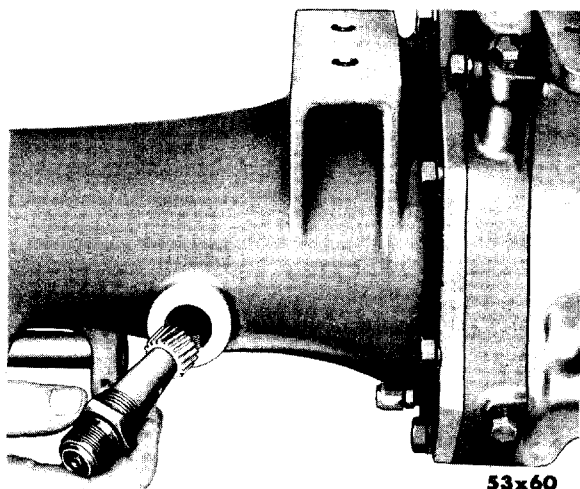

Fig. 12—Removal and Installation of Speedometer Drive Pinion
(1) Remove the speedometer drive pinion and sleeve assembly, as shown in Figure 12. **The nylon gear can be easily damaged if extension housing is removed without first removing the speedometer drive pinion.**
(2) Inspect the output shaft rear bearing oil seal and remove, if necessary, by using puller, Tool C-748. Remove any burrs from counter-bore of extension housing.
(3) Remove the seven transmission extension to case screws and lockwashers.
(4) Install guide studs, Tool C-3283, and remove extension assembly by carefully tapping assembly rearward, using a soft hammer. Remove transmission extension gasket and discard.
(5) Do not remove extension bearing unless inspection reveals it is necessary. Never reuse a bearing which has been removed. If necessary to remove bearing, remove the output shaft rear bearing snap ring. Inspect ring for distortion. Use driver, Tool C-3275, and drive bearing out of extension housing.